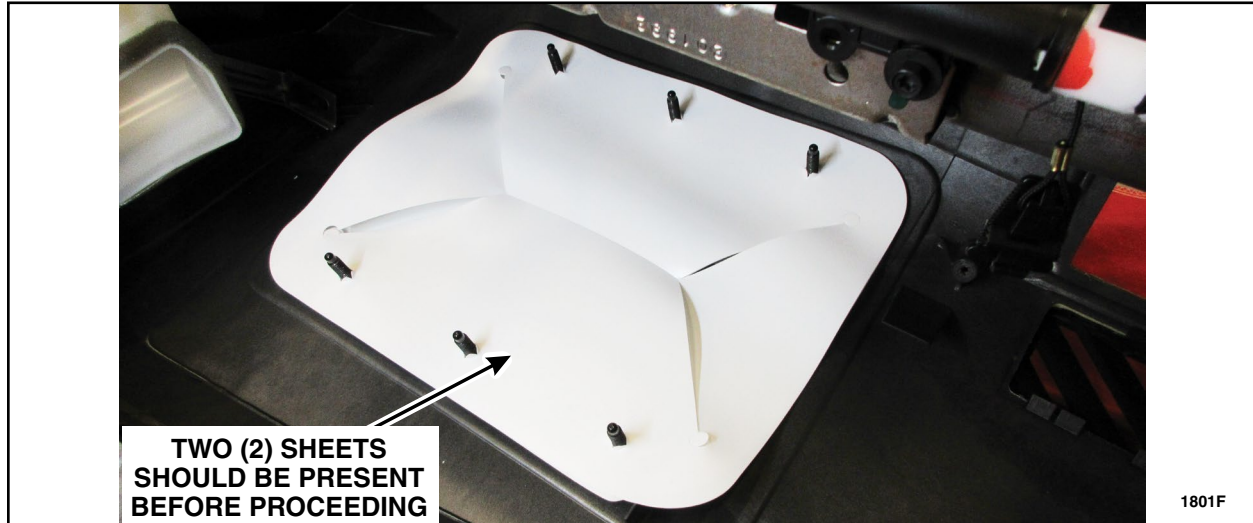

FIGURE 7
7. Replace sheet or sheets if damaged, clear both sheets of any dirt or debris and **install both sheets** on the airbag mounting bracket studs. See Figure 7.